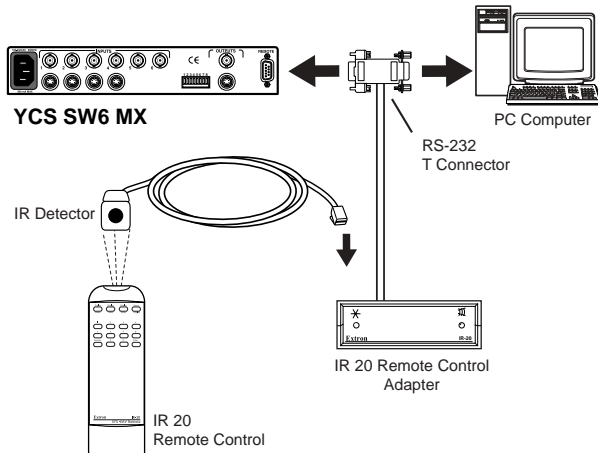

Figure 6 — Installing the IR 20 infrared remote control
1. Attach the 9-pin T plug on the IR 20 adapter to the remote connector on the rear panel of the switcher (figure 6).